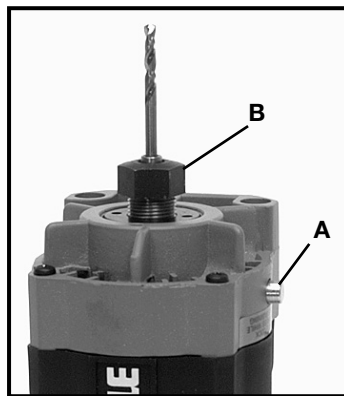

Fig. 3
1. Clean and insert shank of drill bit into the collet of the drill motor (see Fig. 3), until shank bottoms.
2. Depress spindle lock (A) Fig. 3, and rotate collet nut (B) Fig. 3, clockwise by hand until lock engages hole in motor spindle.